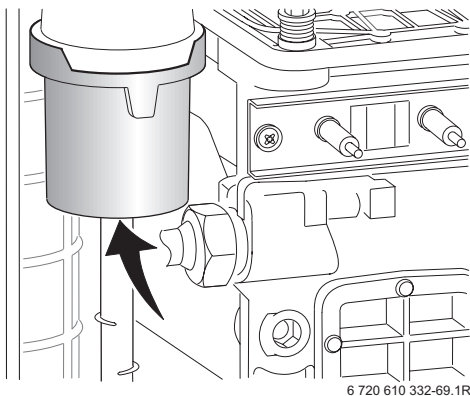

Fig. 51
- Unscrew the two fixing screws and carefully remove the electrode assembly. Refer to fig. 51.